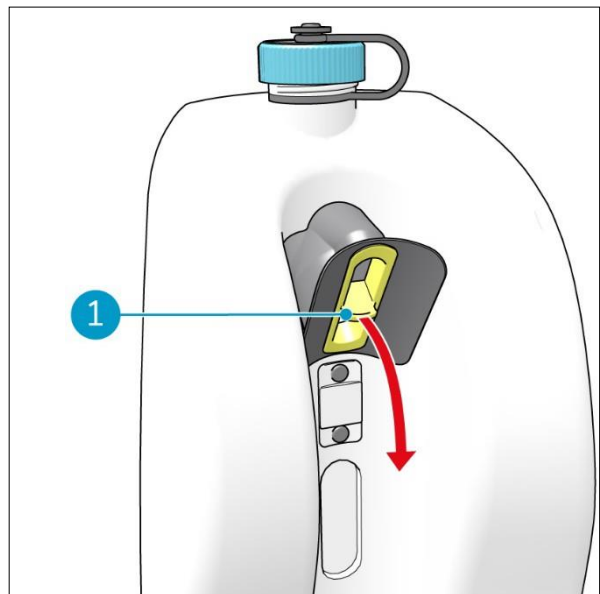

Figure 30
3. Grab the support frame of the ball float shutoff assembly (Figure 30, pos 1) between your index finger and your thumb and pull it outwards.
13. Place the ball float shutoff assembly back in the recovery tank, see Figure 30. Make sure that the support frame and rubber housing sit flush on the tank and seals it.